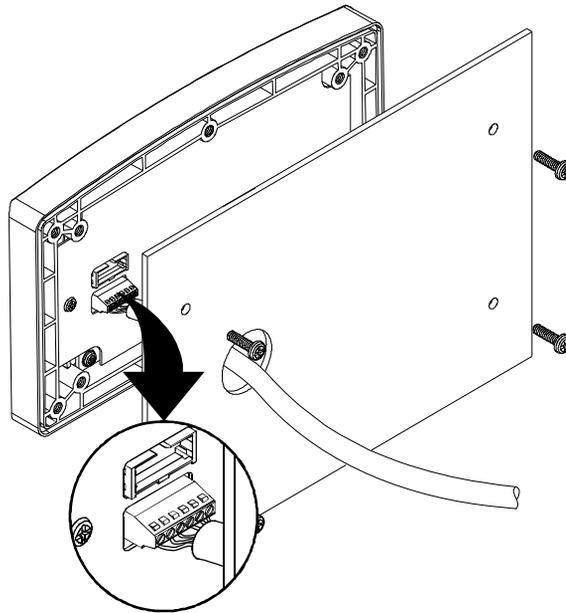

FIG. 10 CONNECTING DISPLAY CABLE TO DISPLAY
Step 4. Connect the cable wires to the display and the Electronic Enclosure. (See Figs. 10 & 11)
Step 9. Strip enough insulation off the cable wires so you can connect the wires to the Display connector mounted at the back of the display (See Fig. 10).
Step 10. Use a phillips head screwdriver and install the four (4) 6-32 x 1/2 inch screws that fasten the bezel to the panel or wall. (See Fig. 10) Use a torque screw driver and torque each screw to 10 inch/pounds. **DO NOT OVERTIGHTEN!**